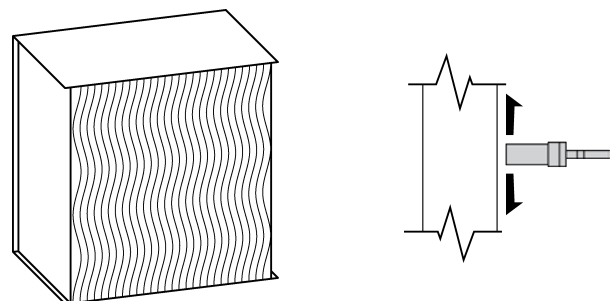

Fig 2.
- **NOTE:** Use a soft brush and/or vacuum with a soft brush attachment to remove any lint and dust build-up (**Fig 2**), taking extreme care not to damage the aluminium fins on the condenser face. Never blow air into the condenser.